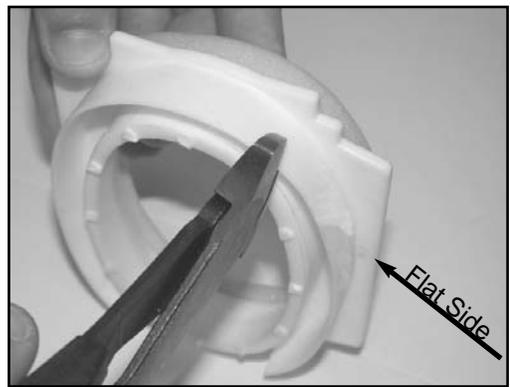
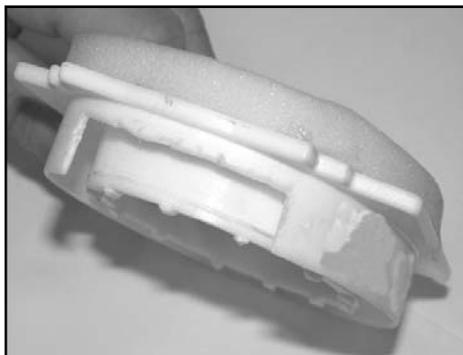

Fig. 2
Fig. 3
4. On the 2002-2006 models you will need to cut out a section of the plastic base. It must be large enough for the screw of the hose clamp. (Fig. 2 and Fig. 3)